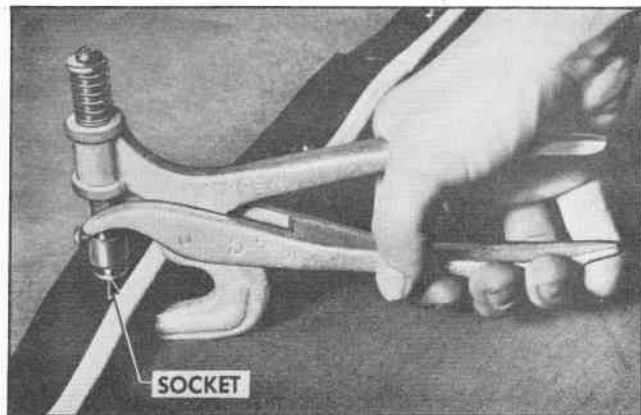

Fig. 4 Installing Socket and Button
7. Place boot material over button at marked location, then position fastener socket over chalk mark and squeeze handles of press together, as shown in Figure 4, until socket and button are securely attached to boot material.